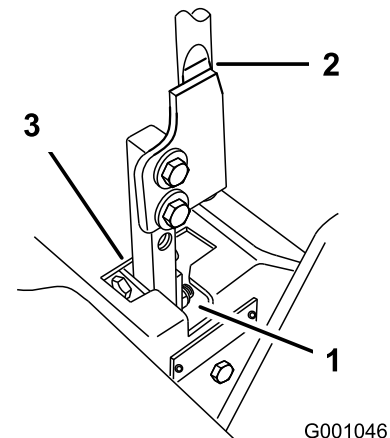

Figure 63
5. Move the lever to the neutral position but not locked (Figure 63).
6. Pull the lever back until the pin (on arm below pivot shaft) contacts the end of the slot (just beginning to put pressure on the spring) (Figure 63).
7. Check where the control lever is relative to notch in console (Figure 63). It should be centered allowing lever to pivot outward to the neutral lock position.